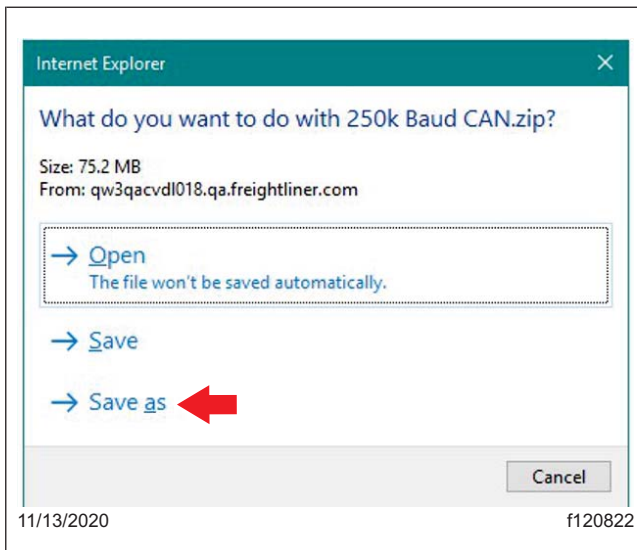

Fig. 4, Selecting Save As
7. Select 'Save As.' See Fig. 4.